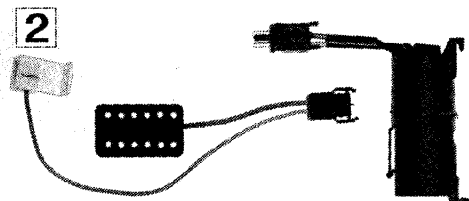

Figure 2
- d. Interference suppression filter and additional wiring harness (Figure 2) can be installed in 911 Carrera 2/4 prior to the VIN numbers on page one.